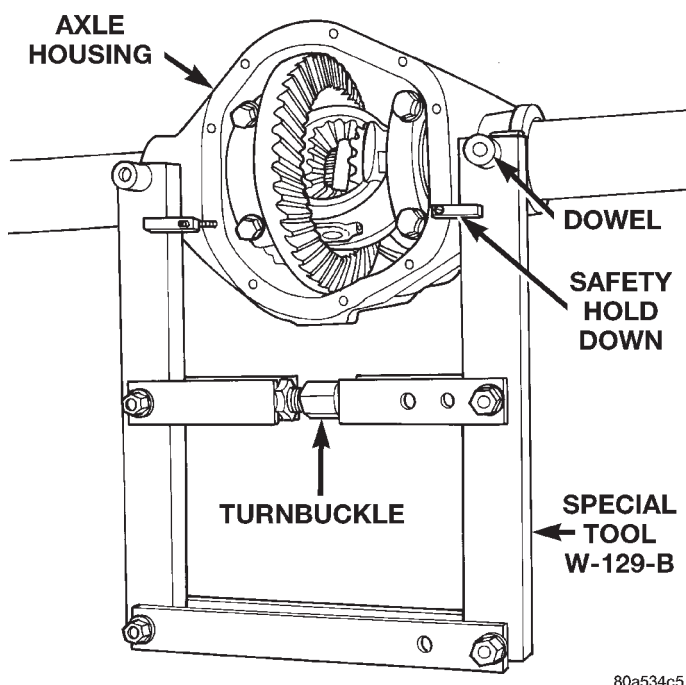

Fig. 24 Install Axle Housing Spreader
(7) Position Spreader W-129-B, utilizing some items from Adapter set 6987, with the tool dowel pins seated in the locating holes (Fig. 24). Install the hold-down clamps and tighten the tool turnbuckle finger-tight.